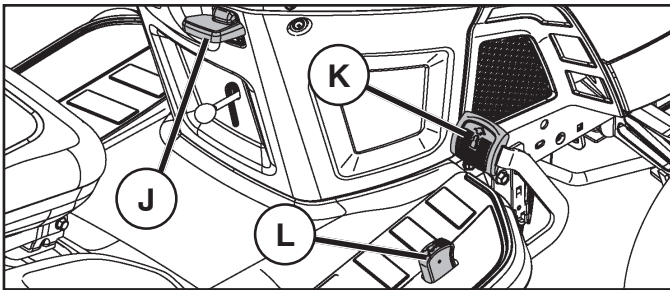

Fig. 24
TO MOVE FORWARD AND BACKWARD (See Fig. 24)
- Slowly depress forward (K) or reverse (L) drive pedal to begin movement. Ground speed increases the further down the pedal is depressed.
TO USE CRUISE CONTROL (J) (See Fig. 24)